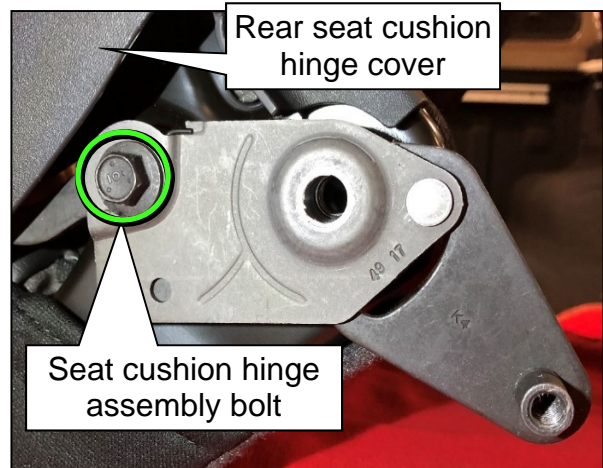

Figure 4
6. Remove one (1) seat cushion hinge assembly bolt, and the seat cushion hinge assembly (Figure 4).